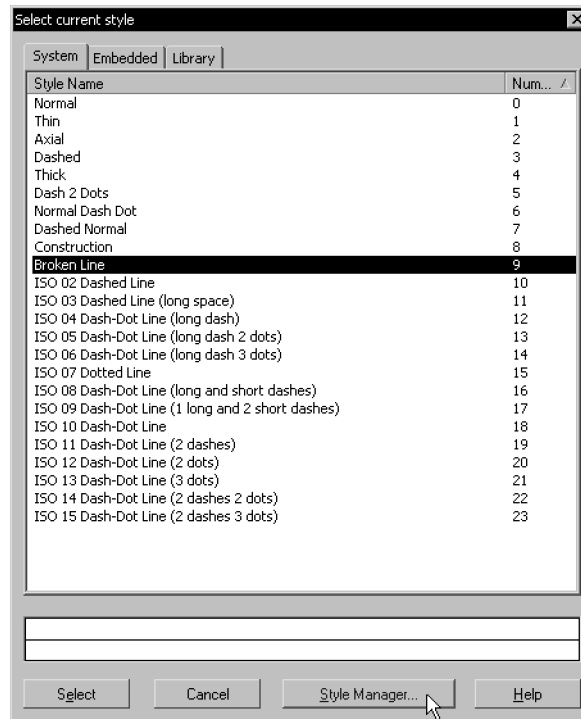

Fig. 6.3. elect Line Style dialog
1. Unfold the **Style** list on the Property Bar and select the **Another Style** string. The dialog to select the line style will be displayed on the screen (Fig. 6.3).